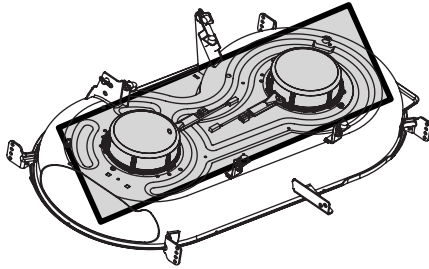

Figure 17
- Clean the top of the tractor deck. See Figure 17.